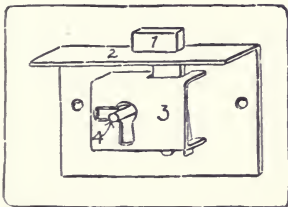
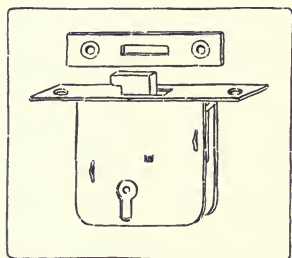

Fig. 236. Rim-lock, for Drawer.
Fig. 237. Mortise-lock, for Box.
Locks may be classified: (1) According to their *uses*, of which there are two types. (a), Fig. 236, For drawers, cupboards, tills, wardrobes, and doors. In these the bolt simply projects at right angles to the selvage into the strike, and resists pressure sidewise of the lock. (b), Fig. 237, For desks, roll-top desks, chests, boxes and sliding doors. In these, the bolt includes a hook device of some kind to resist pressure perpendicular to the selvage. In some locks, the hook or hooks project sidewise from the bolt, in others the bolt engages in hooks or eyes attached to the strike.